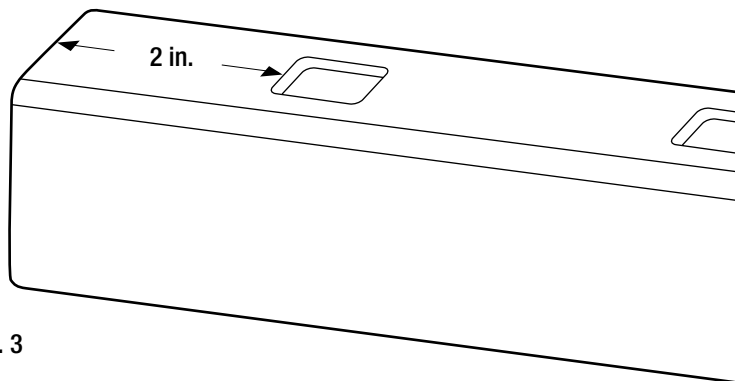

Fig. 3
- For line applications, subtract $\frac{3}{8}$ in. from the measurement on each end to allow for rail brackets and flanges. For stair applications, subtract $\frac{1}{8}$ in. from the measurement on each end to allow for stair brackets. Transfer the measurement to the top rail, making sure that the distance from the end of the rail to the first baluster slot is equal on both ends of the rail. The minimum distance from a post to first baluster slot is 2 in. for clearance from the brackets (See Fig. 3).